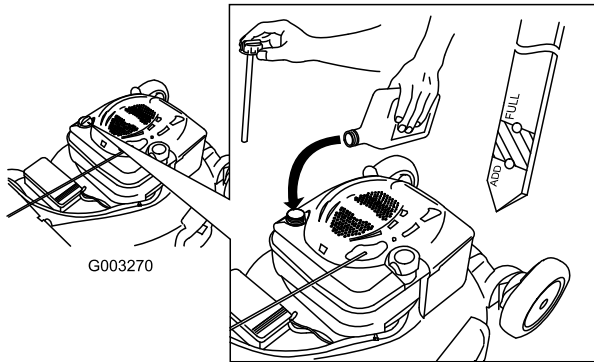

Figure 36
4. **Slowly** pour oil into the oil fill tube until the oil level reaches the Full line on the dipstick (Figure 36). **Do not overfill.** (Max. fill: 20 oz. (0.59 l), type: SAE 30 detergent oil with an API service classification of SF, SG, SH, SJ, SL, or higher.)